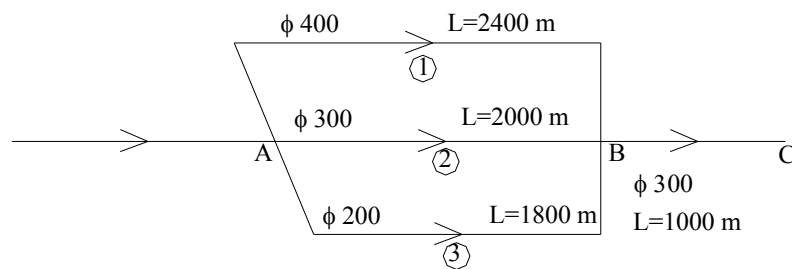

Figure 7.14
**Problem 7.14:** Determine the discharges in the parallel pipes and the pressure at A if the pressure at point B is  $8 \text{ N/cm}^2$  and at C the pipe is open to the atmosphere in Fig. 7.14. For all pipes the Manning's roughness coefficient will be  $n=0.016$ .